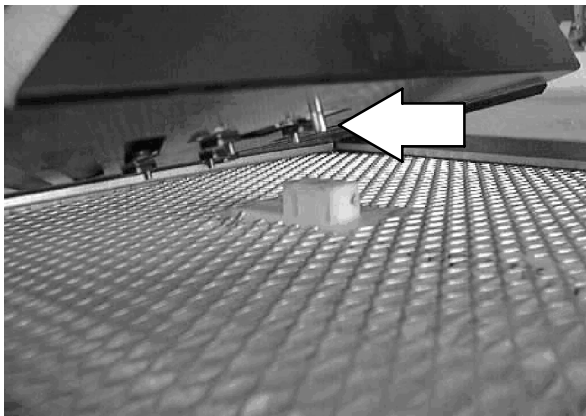

FIG. 5
6. Place the VCS™ system filter shaker onto the filter. Take care to correctly insert the shaking pin into the filter comb. Refer to Fig. 5.